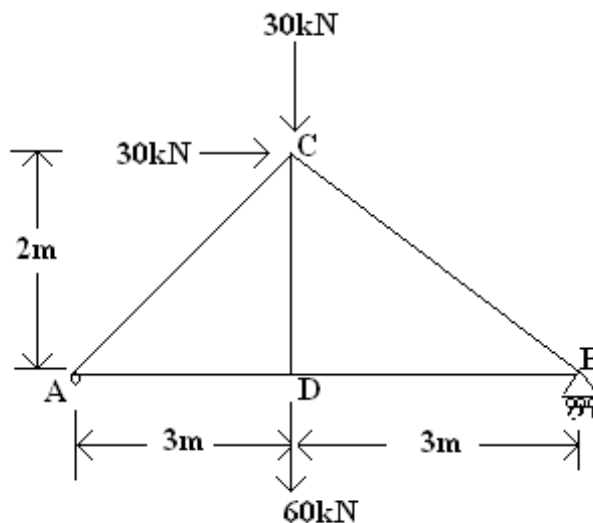

Figure 3
4. Using the method of sections, find the magnitude and nature of forces in all the members of the pin-jointed, simply-supported, plane frame shown in figure 3. Make the forces in the frame. [16]